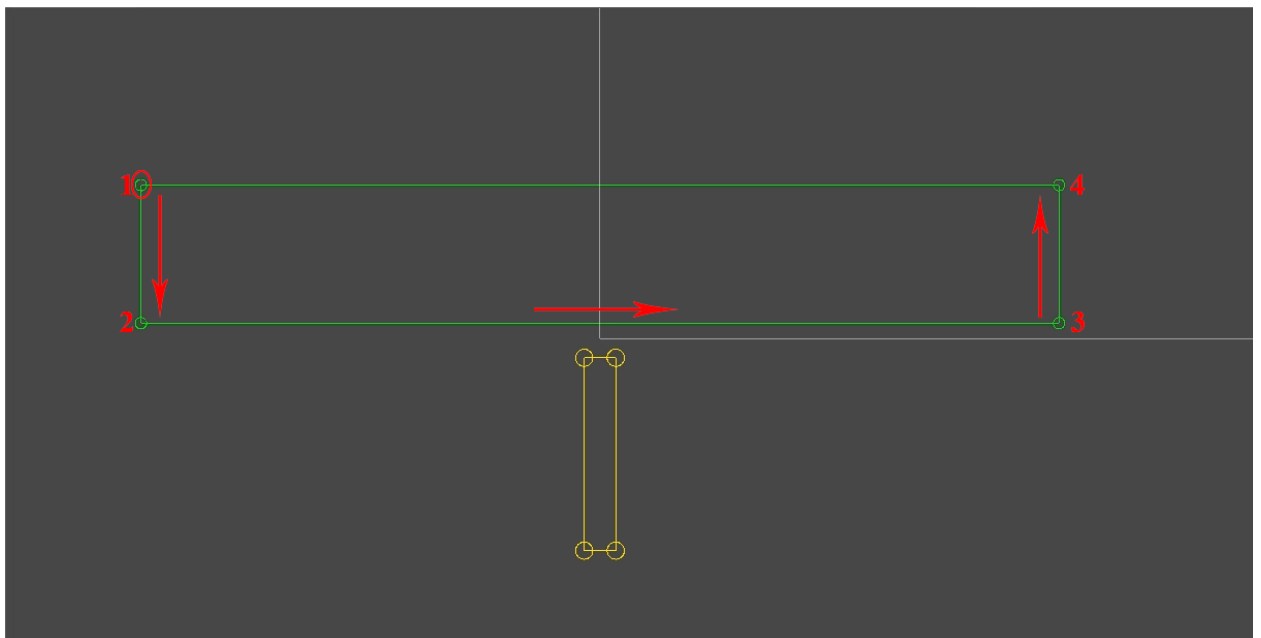

Figure 8
- 2) Create the initial contour for the turning bar. At this contour, the point bypass should be counterclockwise, the end point should lie on the same line along the X axis with the first point in the contour (Y should be equal) and also X should be greater than the first point. Because this is the initial contour, it will be very simple and consist of four points, the result will be such a contour, Figure 8. In the code, this is the “Wood” class, the “GetAllContour” method.